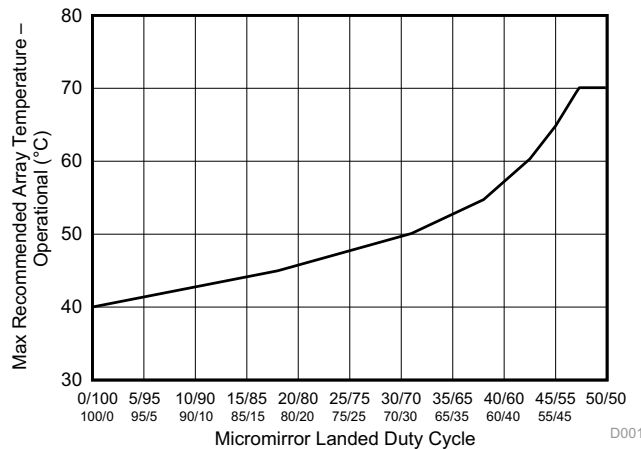

Figure 1. Max Recommended Array Temperature – Derating Curve
- (13) Per Figure 1, the maximum operational array temperature should be derated based on the micromirror landed duty cycle that the DMD experiences in the end application. Refer to Micromirror Landed-On/Landed-Off Duty Cycle for a definition of micromirror landed duty cycle.
- (14) Long-term is defined as the usable life of the device
- (15) Array temperatures beyond those specified as long-term are recommended for short-term conditions only (power-up). Short-term is defined as cumulative time over the usable life of the device and is less than 500 hours for temperatures between the long-term maximum and 75°C, less than 500 hours for temperatures between 0°C and -10°C, and less than 25 hours for temperatures between -10°C and -20°C.